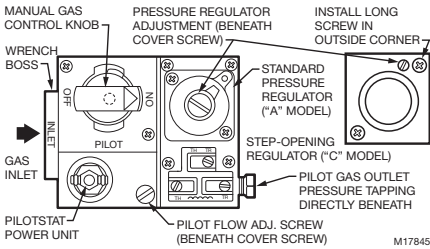

Fig. 3. Top view of standard capacity gas control.
- Connect pipe to control inlet and outlet. To tighten inlet and outlet connections, use wrench on projecting wrench boss. Refer to Fig. 3 and 4.
The thermocouple connection to the power unit or ECO connector (Fig. 3) is an electrical connection and must be clean and dry. Never use pipe compound. Tighten only 1/4 turn beyond finger tight to give good electrical continuity.
1. Remove pilot adjustment cover screw. Refer to Fig. 3.